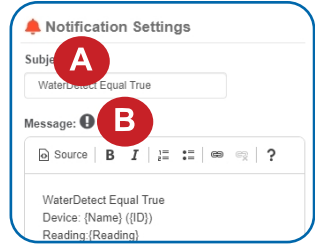

Figure 20
- A. Input the subject for the notification. See Figure 20.
- B. Customize the message body for the notification. See Figure 20.